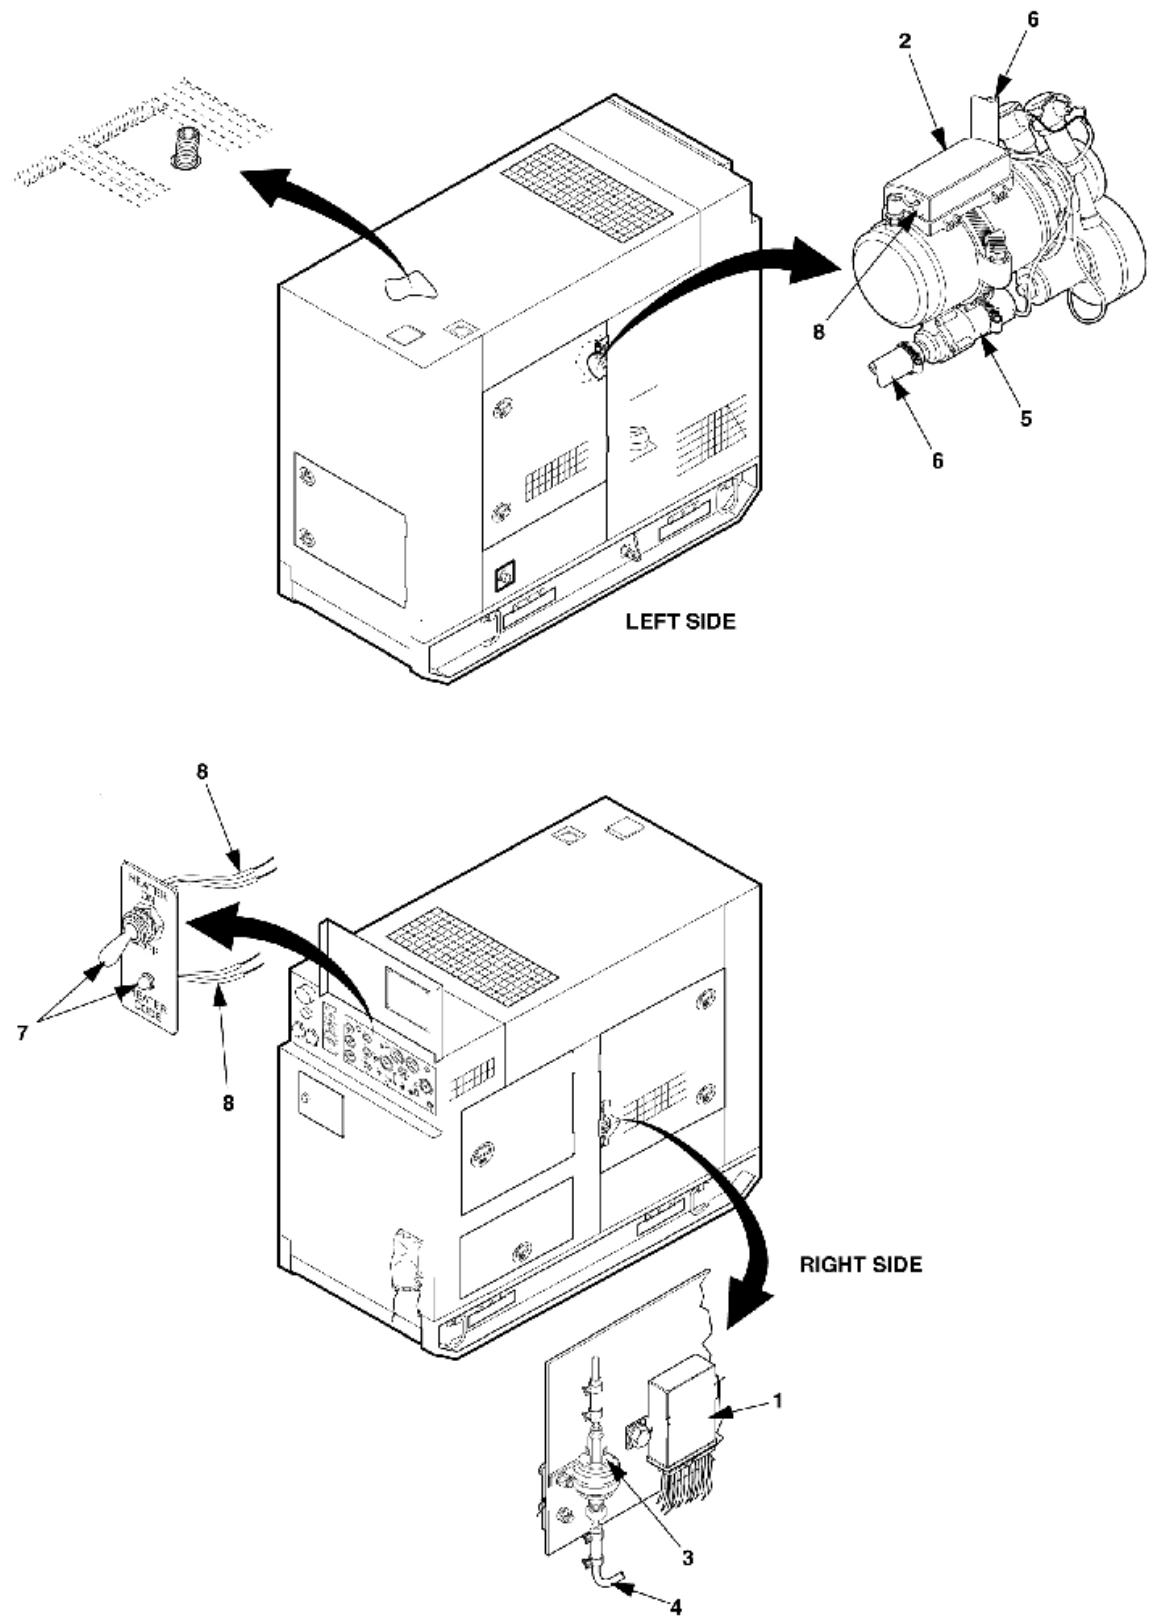

Figure 1-1. Location of Major Components for 15kW (MEP-804A, MEP-814A).
Figure 1-1 illustrates the major components of the kit and shows their locations on the 15kW Tactical Quiet Generator Set. (Refer to table 1-1 for item names).
2-1.1.1 Heater Indicator Light. A light at the heater ON-OFF switch (item 7, figure 1-1) lights when the heater is operating. The light also serves as a troubleshooting code light (See paragraph 3-1.1).